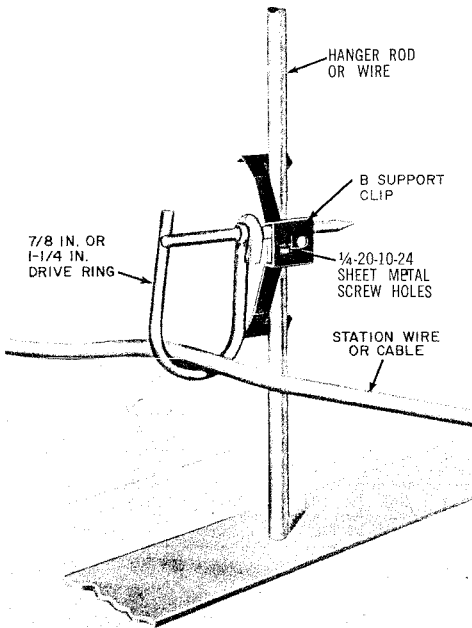

Fig. 4 - B Support Clip
3.05 The B Support Clip (Fig. 4): provides a means of attaching Drive Rings to hanger rods and wires used in false ceiling construction or to the flanges of structural steel framework. It replaces the B Beam Clip.